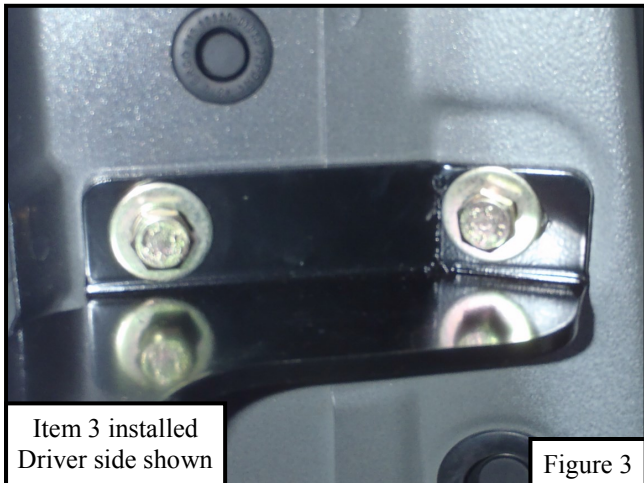

Figure 3
3. Locate Front, Middle, and Rear Mounting Brackets (Items 3, 4, 5). Using the supplied M8 hardware, loosely install the brackets to the rocker panel. See **Figures 3, 4, & 5**. **Note:** Item 5 has a notch to differentiate from Item 4. See image